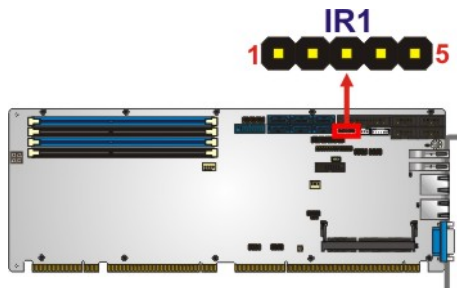

Figure 3-13: Infrared Connector Location
- CN Location:** See **Figure 3-13**